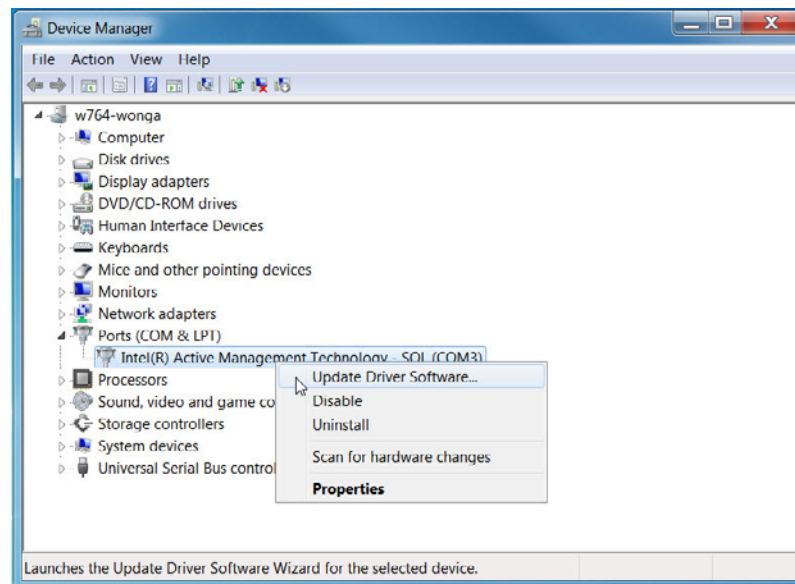

Figure A-1 • Device Manager - Update Driver Software
7. Choose **Update Driver Software** (Figure A-1).